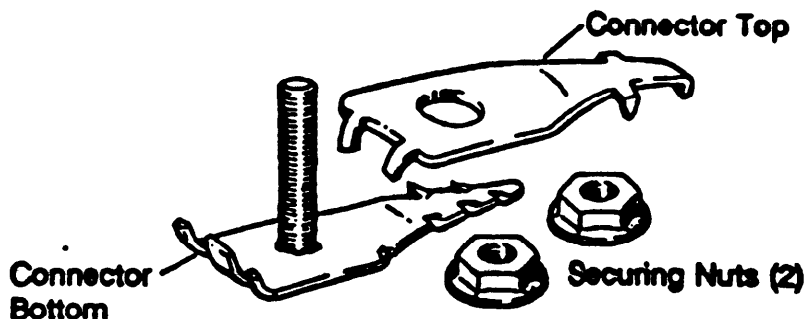

Figure 2 - Displaying Components
2.01 The 4460-D Shield Connector is shown in Figure 2. Three major components make up the Connector. The connector bottom with bolt attached, the connector top, and two securing nuts make up a connector. The only tool required is a 3/8" terminal wrench.